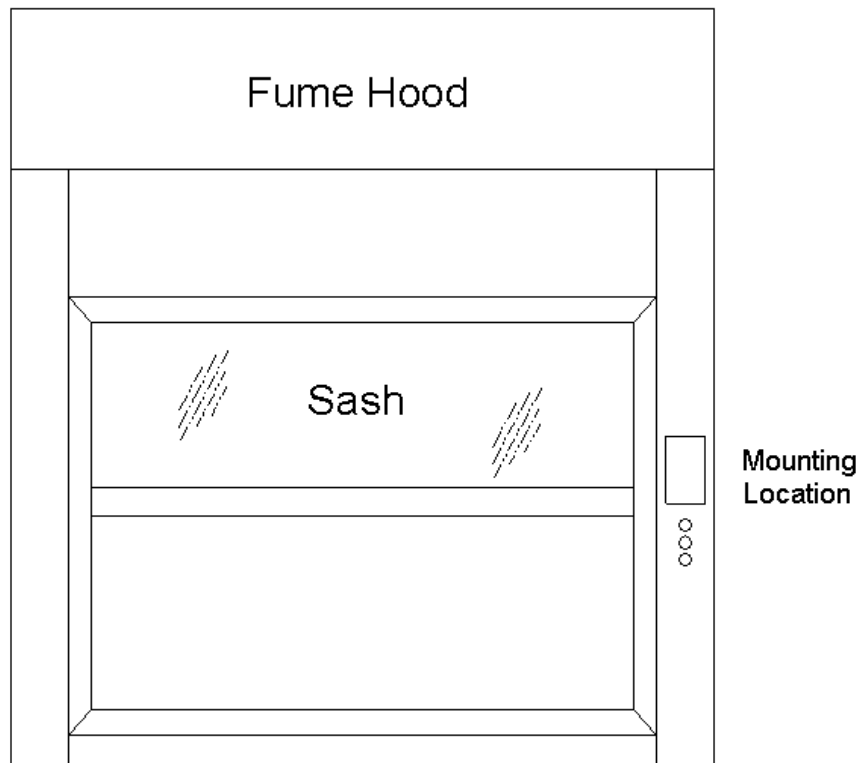

Figure 1: Mounting Location
1. Select the mounting location for the FHS5 Slimline Display. The display is typically mounted above the service controls (Figure 1).